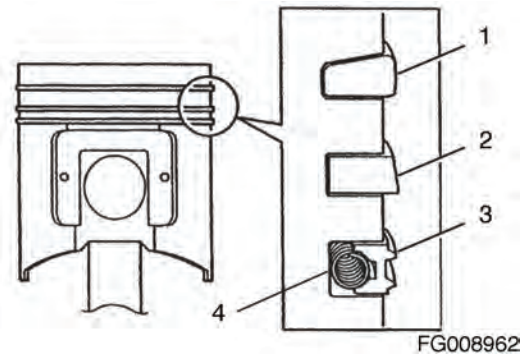

Figure 212
3. Reinstall the oil ring expander (4, Figure 212). Reinstall the oil ring (3, Figure 212) with the end gap at 180° from the expander end gap.
4. Reinstall the second compression ring (2, Figure 212). This ring is identified by its dark color and tapered face profile.
5. Reinstall the top compression ring (1, Figure 212). This ring is identified by its silver color and barrel-shaped face profile.
The oil ring expander (4, Figure 212) end gap must be located 180° from the oil ring (3, Figure 212) end gap.
6. Stagger the piston ring end gaps at 120° intervals (1, 2, 3, Figure 212)